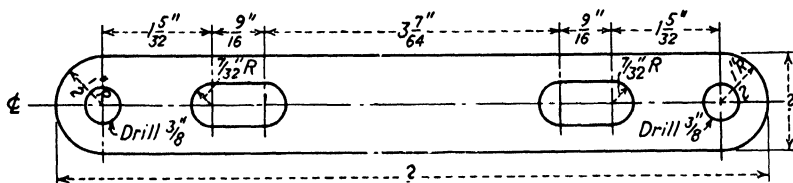

Fig. 294.
5. Find the over-all dimensions of the tie rod terminal shown in Fig. 294.